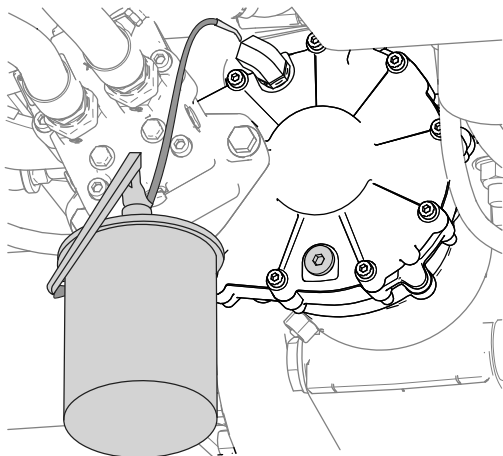

Figure 112
6. Fill the gearbox with 0.34 L (11.5 fl oz) of the specified oil through the 90° fitting (Figure 112).